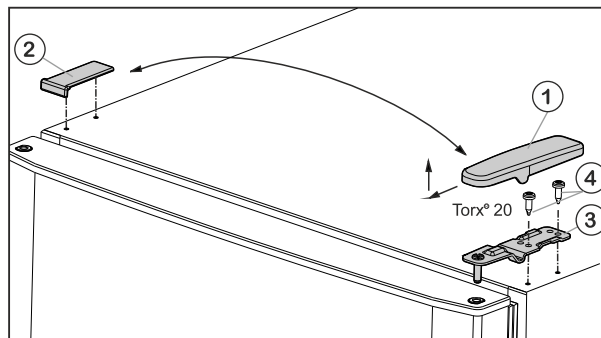
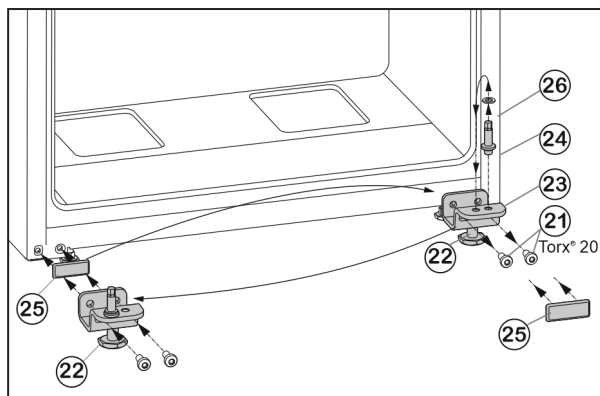

Fig. 5
Fig. 7
- ▶ Pull off the cover Fig. 5 (1) forwards and upwards.
- ▶ Lift off the cover Fig. 5 (2).
- ▶ Unscrew the upper turn hinge Fig. 5 (3) (2 x Torx® 20) Fig. 5 (4) and lift it off.
- Unscrew fastening screws Fig. 7 (21).
- Remove the lower bearing block Fig. 7 (23), complete with bearing bolt Fig. 7 (24), washer Fig. 7 (26) and adjustable foot Fig. 7 (22).
- Unscrew the bearing bolt Fig. 7 (24), complete with washer Fig. 7 (26), re-locate it into the mounting hole on the opposite side of the bearing block and tighten again.
- Carefully remove the cover plate Fig. 7 (25) and re-locate it to the other side.
- Fasten the lower bearing block Fig. 7 (23), complete with bearing bolt Fig. 7 (24), washer Fig. 7 (26) and adjustable foot Fig. 7 (22) to the new hinge side, with the help of a cordless screwdriver if necessary, and **tighten (with 4 Nm)** once again.
- Lower the bottom door onto the bearing bolt Fig. 7 (24).
- Insert the centre bearing block (13) turned through 180° into the lower door and fasten firmly (**with 4 Nm**) to the new hinge side with the fastening screws (11) (2 x Torx® 20).
- Refit plastic washer (10).
- Set the upper door down on the centre bearing block (13).
- Insert the upper turn hinge Fig. 5 (3) in the door on the new hinge side.
- Screw in the upper bearing block **tightly (with 4 Nm)** (2 x Torx® 20) Fig. 5 (4). Use a cordless screwdriver if necessary.
- Fit the cover Fig. 5 (1) on the opposite side by sliding it rearwards and latching it into place.
- Press the cover Fig. 5 (2) on the opposite side down into place until it latches.
- Unscrew the adjustable foot Fig. 7 (22) on the lower bearing block Fig. 7 (23) until it reaches the floor.